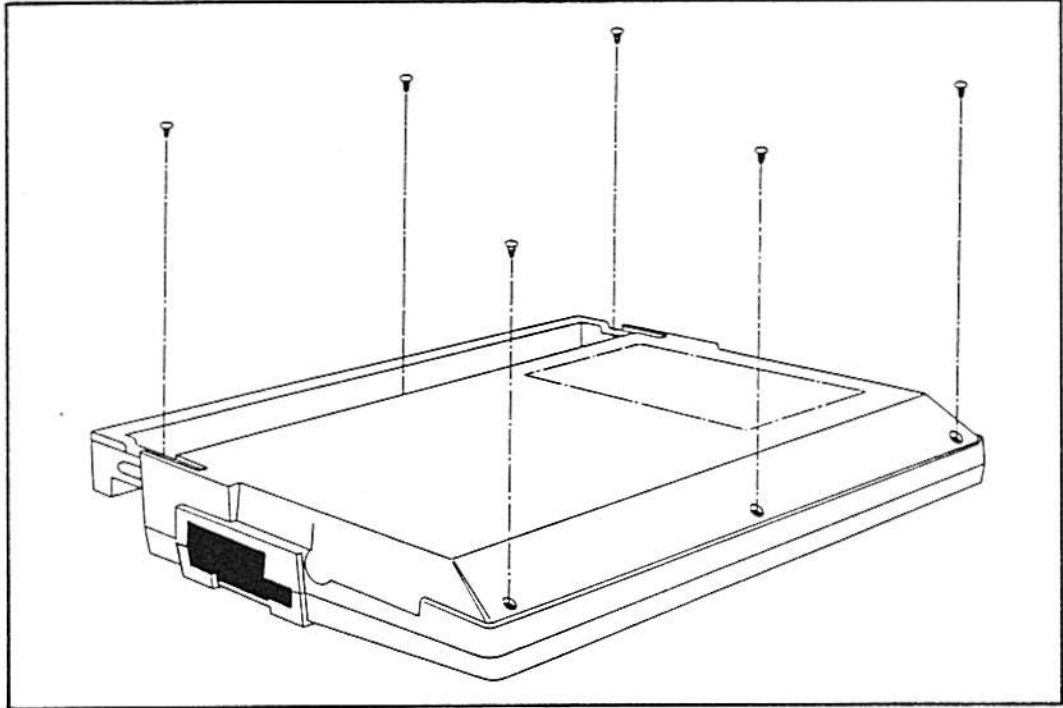

Figure 5.2 Location of Screws on Bottom Housing
- (1) Turn the Console bottom up.
- (2) Loosen and remove 6 self-tap screws from the Bottom Housing (See figure 5.2).
- (1) Carefully flip the Keyboard up right so that is is on top of the Bottom Housing.
- (2) Gently (do not force) lower the Keyboard onto the Bottom Housing, until the 2 snap in place together.
- (3) Turn the Console up side down.
- (4) Tighten the 6 self-tap screws. (See figure 5.2)
- (5) Turn the unit right side up again when done.